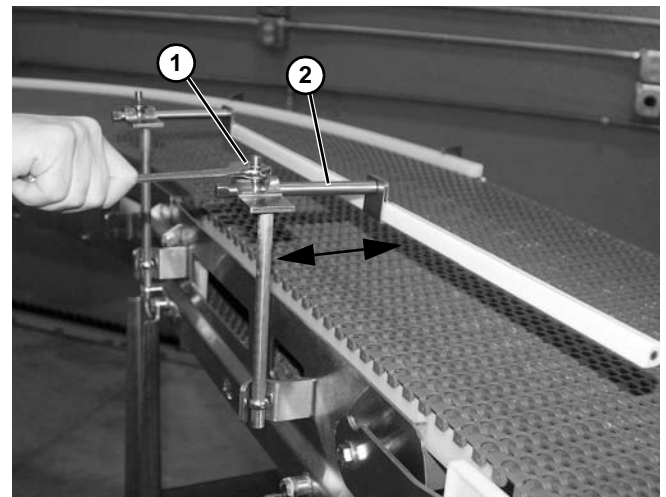

Figure 28
3. Loosen nut (Figure 28, item 1), and adjust the horizontal guide post (Figure 28, item 2) and guide rail, as needed. Tighten nut.